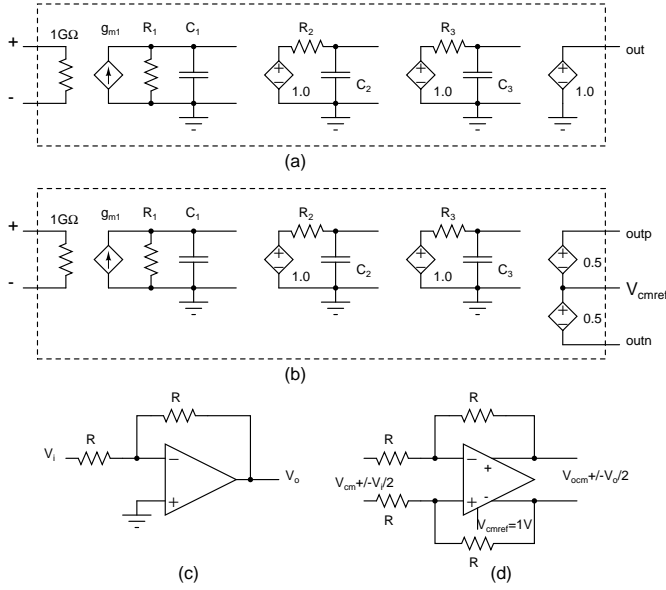

Figure 2: Problem 3
- Fig. 2(a) shows a macromodel of an opamp with two non dominant poles. Determine the transfer function of the opamp, its dc gain, poles and zeros, and the unity gain frequency. Determine the values for $A_{dc} = 500$, $\omega_u = 100\text{ MHz}$, $p_2 = 200\text{ MHz}$, $p_3 = 400\text{ MHz}$. Simulate the unit step response of the circuit. Use a 10ps risetime for the input step. Plot the step response in the following cases (In each case all other parameters have their nominal values).
Fig. 2(c) shows a macromodel of a fully differential opamp with two non dominant poles. V_{cmref} controls the output common mode. Determine the values for $A_{dc} = 500$, $\omega_u = 100$ MHz, $p_2 = 300$ MHz, $p_3 = 400$ MHz. Simulate the response of the amplifier in Fig. 2(d) to a differential unit step. Use $V_{cmref} = 1$ V and $V_{cm} = 0.5$ V. Plot V_{op} , V_{on} and verify that they have expected values.